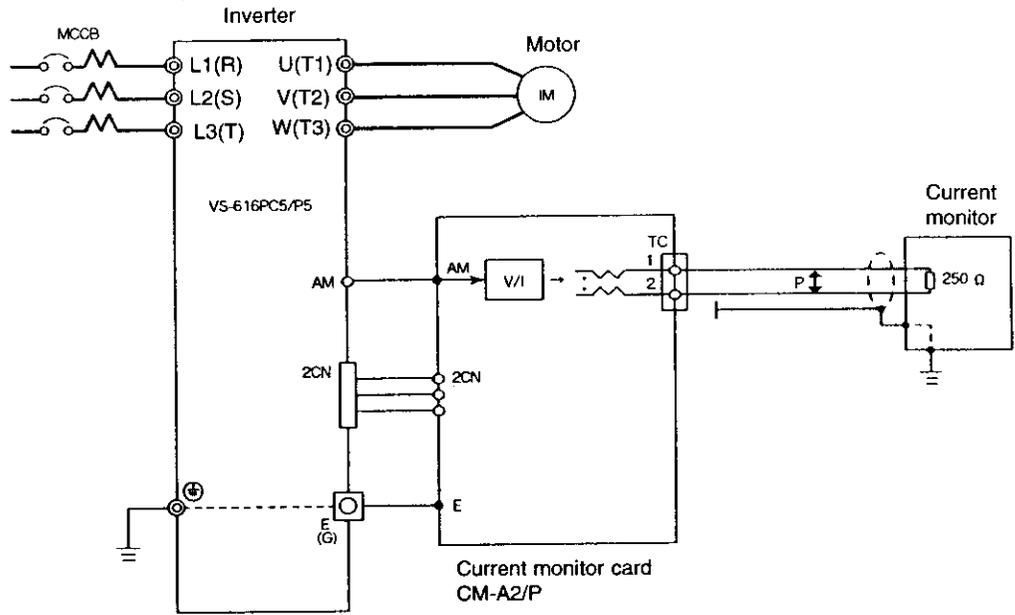

Fig. 3 Interconnection diagram
Fig. 3 shows interconnection between the inverter, CM-A2/P, and peripheral equipment.
- To prevent noise, use shielded wire in the specified area in Fig.3 and separate from heavy current circuits (200VAC or greater) or relay drive circuits. Wire length must be 50m or shorter.
- Connect the grounding lead wire (E) to grounding terminal E (G) of the control board of the inverter.